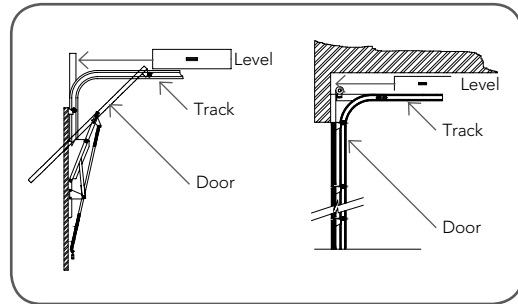

fig 13
- Using a level, transfer this height to the wall above the door (Fig. 13) and mark a line 60mm above it.